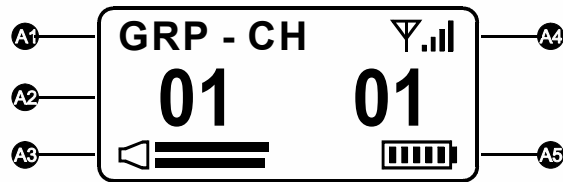

Fig. 7
1. LCD Screen Display, Fig. 7: